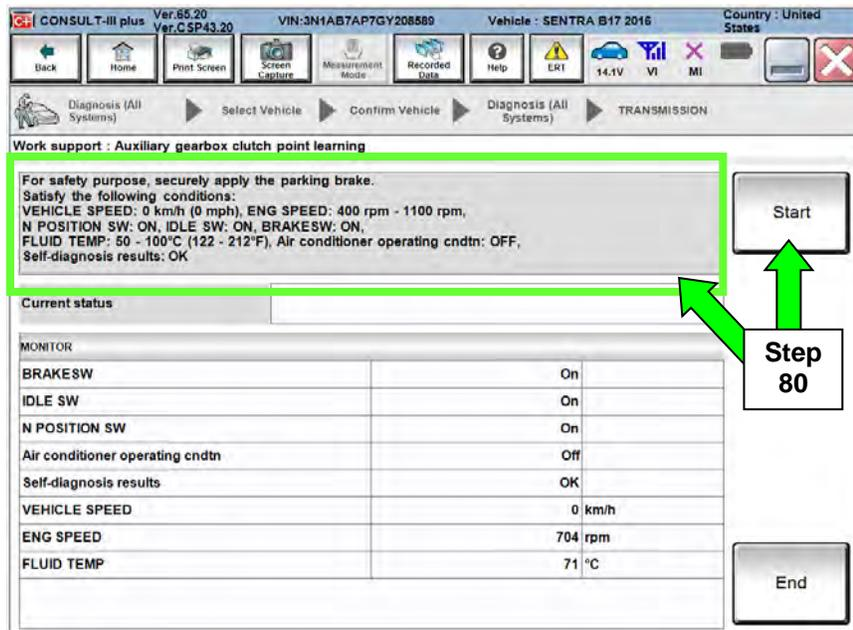

Figure 43
80. Follow the on screen instructions to meet all parameters displayed in Figure 43 and then select **Start**.